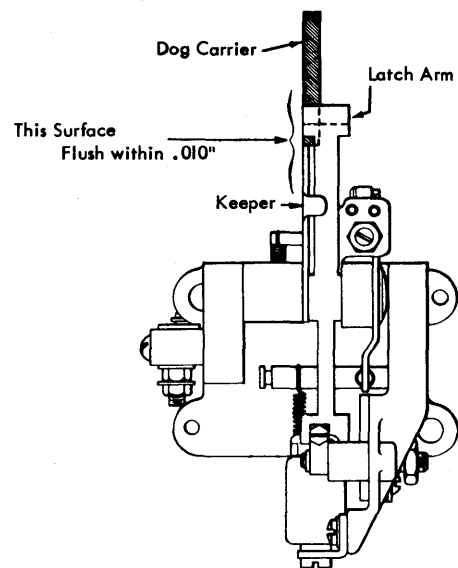

Figure 4-13. Punch Clutch Arm and Dog Carrier Relationship
2. Position the clutch sideways so that the keeper is flush with the edge of the dog carrier within .010" (Figure 4-13).